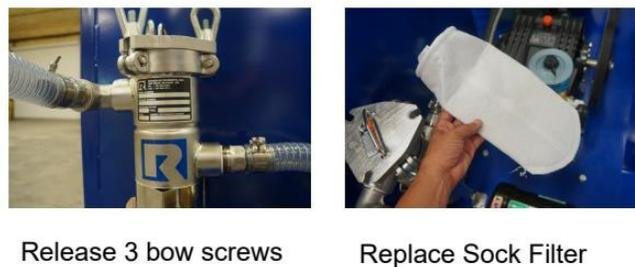

Figure 6.1 – Inspection / Cleaning Water Filter/Strainer
4. Inspect the main filter to ensure that the “sock” is not clogged (See **Figure 6.1**). Clean / wash if necessary.
2. Unscrew the strainer bowl from the housing (turn CCW) (See Figure 6.1).